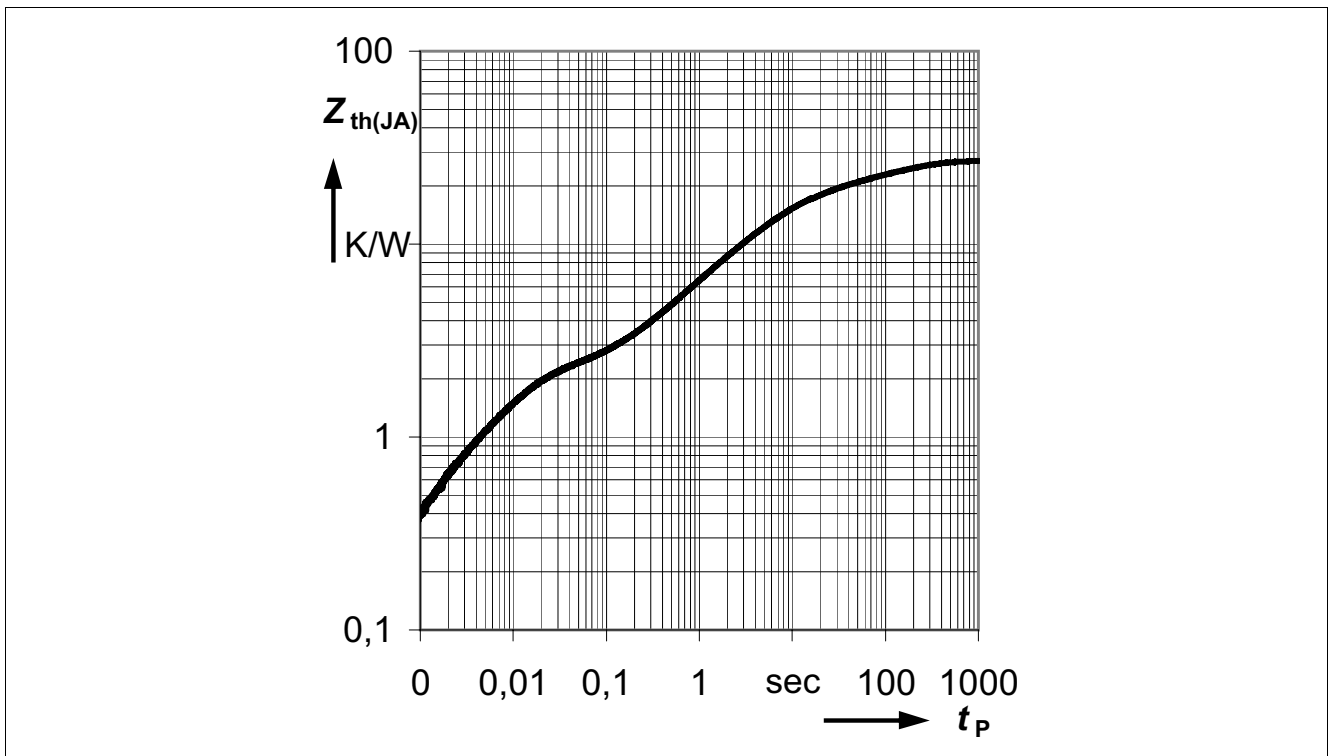

Figure 4 Transient Thermal Impedance $Z_{th(JA)}=f(t_p)$ ⁴⁾
- 4) Specified R_{thja} value and **Figure 4** are according JESD51_7 at natural convection on FR4 2s2p board. The BTS50050-1EGA was measured on a 76.2 x 114.3 x 1.6 mm board with 2 inner copper layers (2 x 70 μ m Cu, 2 x 35 μ m Cu) applying power losses of 1.4W at the channel. According to JESD51-5 a thermal via array under the exposed pad contacted the first inner copper layer. $T_a = 25\text{ °C}$.
Figure 4 shows the typical transient thermal impedance of BTS50050-1EGA.